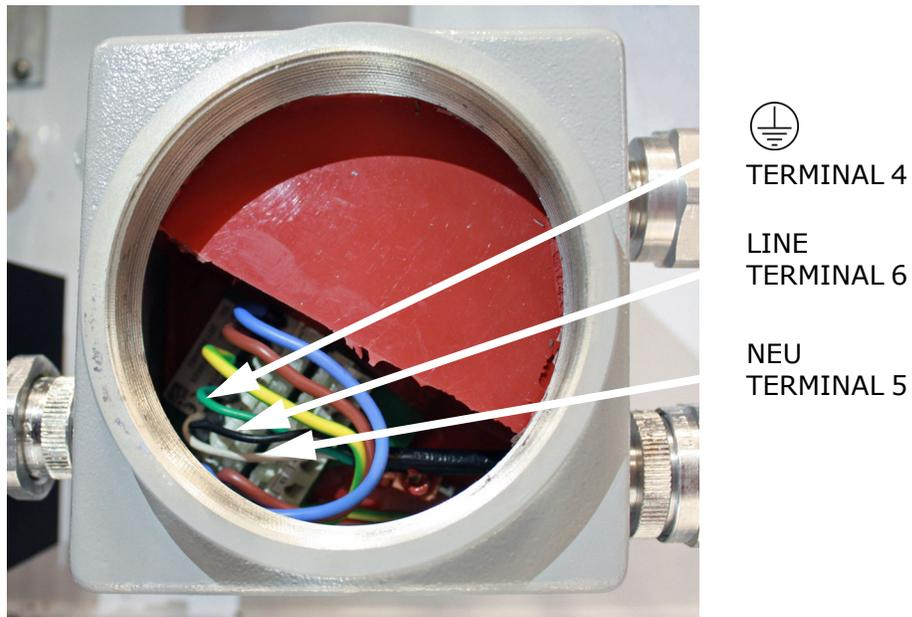

Figure 3-4 AC connection terminal block for enclosure heater
2. Open the power terminal box inside the heated enclosure, as shown in Figure 3-4. The black, white brown and green wires are shown for reference.
6. Attach the neutral and hot wires to the power terminal by connecting the neutral wire to terminal 5, the line (hot) wire to terminal 6 and the ground wire  to terminal 4 as shown in Figure 3-4 on page 3-9.